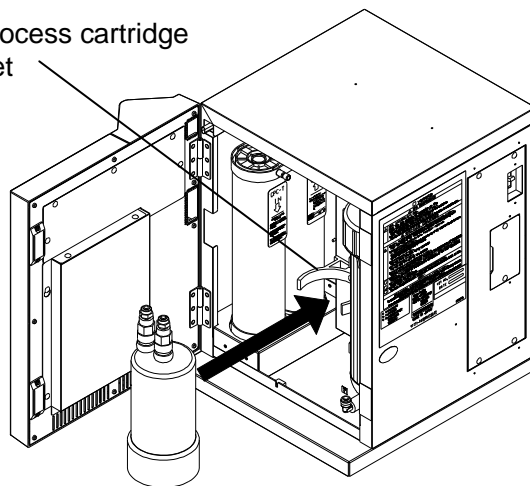

Figure 4
- (1) Remove rubber cap from the process cartridge.
- (2) Place pre-process cartridge into designated bracket, inside the WE200 unit. (See Figure 4)